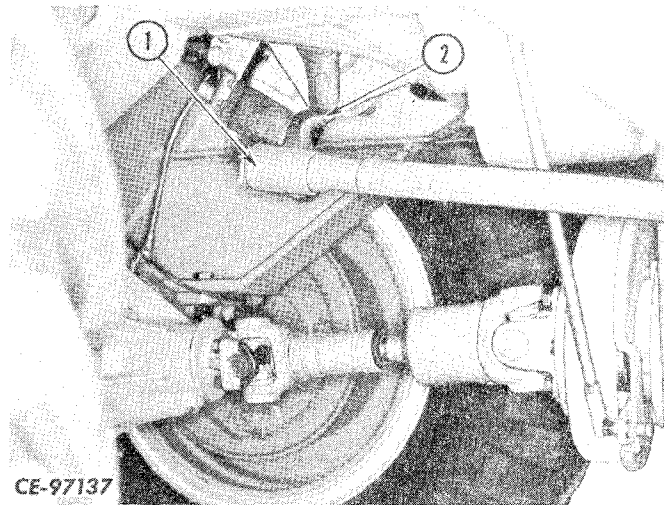

Figure 8-38
Connect drag link (1, Fig. 8-38) to steering arm (2). Refer to SECTION IX, "LINKAGE" for adjustment of steering gear linkage.